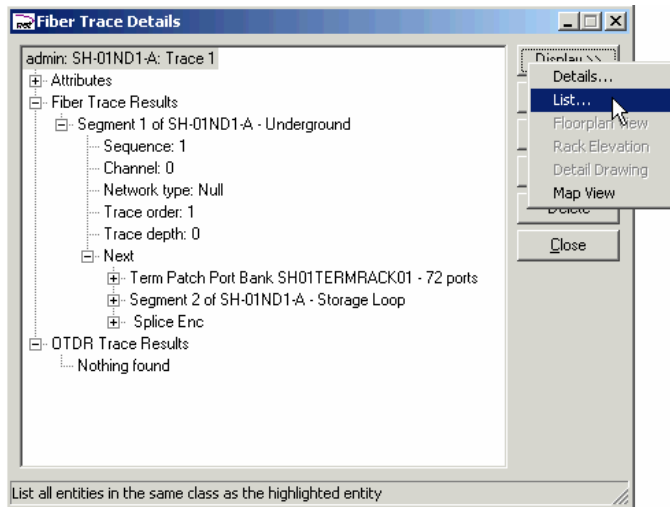

Figure 145 – Trace Results tree.
- To view the trace results in other formats, click the **Display >>** button and select **List...** from the pop-up as shown in Figure 145. This will display a list of all saved traces in the system.